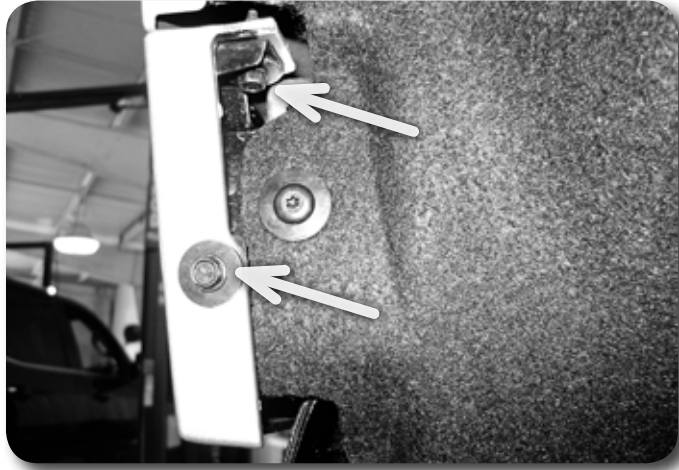

Figure 3
- Using a 7mm socket, remove the two bolts attaching the lower grill valence to the inner fender well on both sides. Figure 3